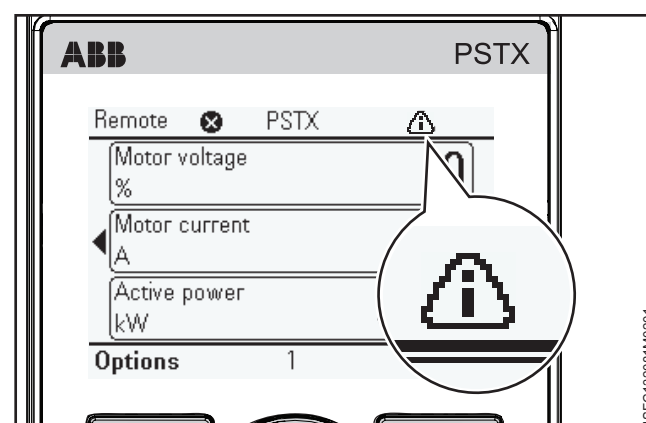

Figure 6.15
6. Fault(s) set to off, See **Figure 6.15**